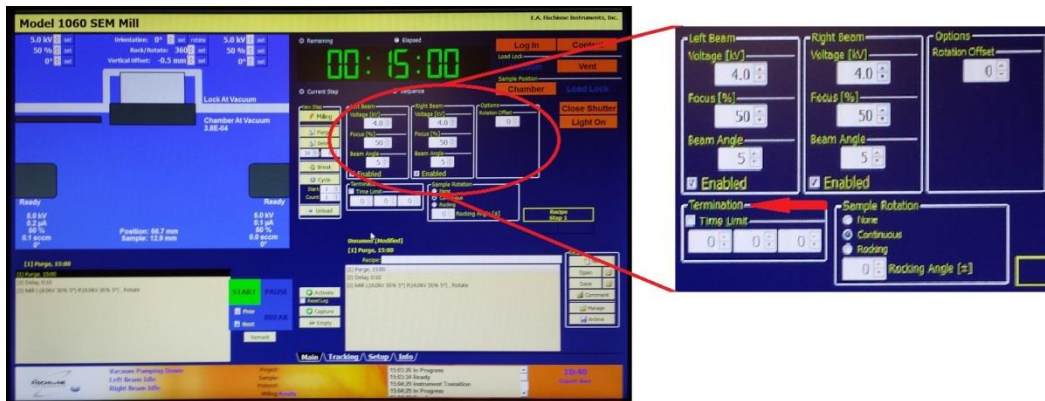

Figure 10
10. Set milling parameters (**Figure 10**). This is where the initial beam parameters are set. The voltage, focus, beam angle, rotation and time limit can be set here. The time limit for milling is controlled by the “**Termination**” dialog box. These parameters are sample dependent. Some experimentation may be required to optimize the parameters for a specific sample. Use the up and down arrows to adjust the parameter values. After the parameters are set click on “**Milling**” to add this to the step screen. **Once all steps have been added, the steps can be saved as a recipe for later use, by clicking on “Save”.**